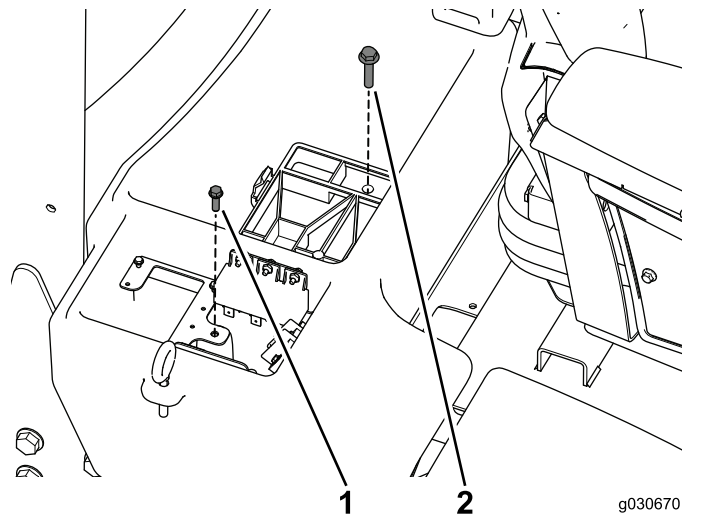

Figure 5
4. Remove and retain the screw securing the reinforcement plate and the bolt securing the battery compartment (Figure 5).